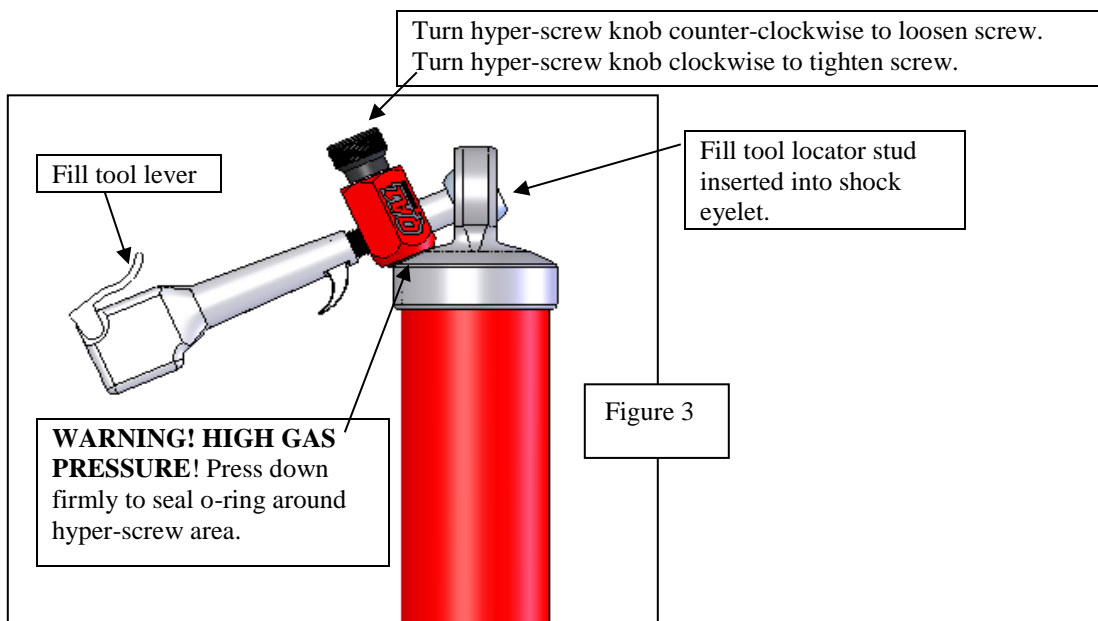

Figure 3
3. Using the QA1 inflation tool, insert the locator stud into the eyelet. See **Figure 3**.